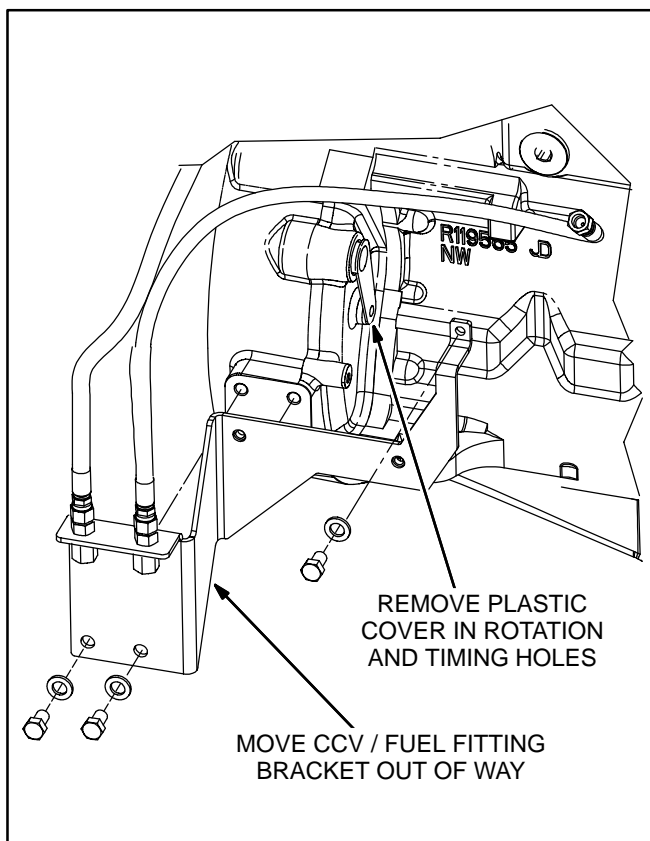

FIGURE 7-10. ACCESS TO ENGINE ROTATION AND TIMING PIN HOLES IN FLYWHEEL HOUSING
2. Move the CCV bracket out of the way for access to the engine rotation tool and timing pin holes (Figure 7-10). If it is necessary to disconnect the fuel lines, make sure the appropriate fuel valves are closed.